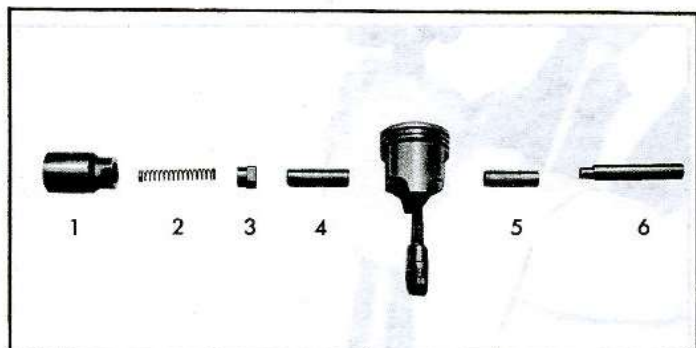

Fig. 101—Piston Assembly and Tool Layout
3. Install piston pin on Installer J-8355-3 and pilot spring Adapter J-8355-1 and pilot in support (fig. 101).